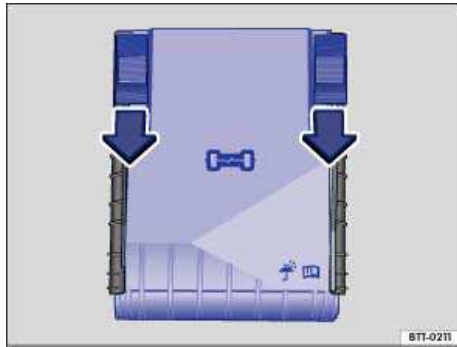

Fig. 201 In the engine compartment: Fuse box cover.
- Move the release tabs in the direction of the arrows to unlock the fuse box cover ⇒ fig. 201.